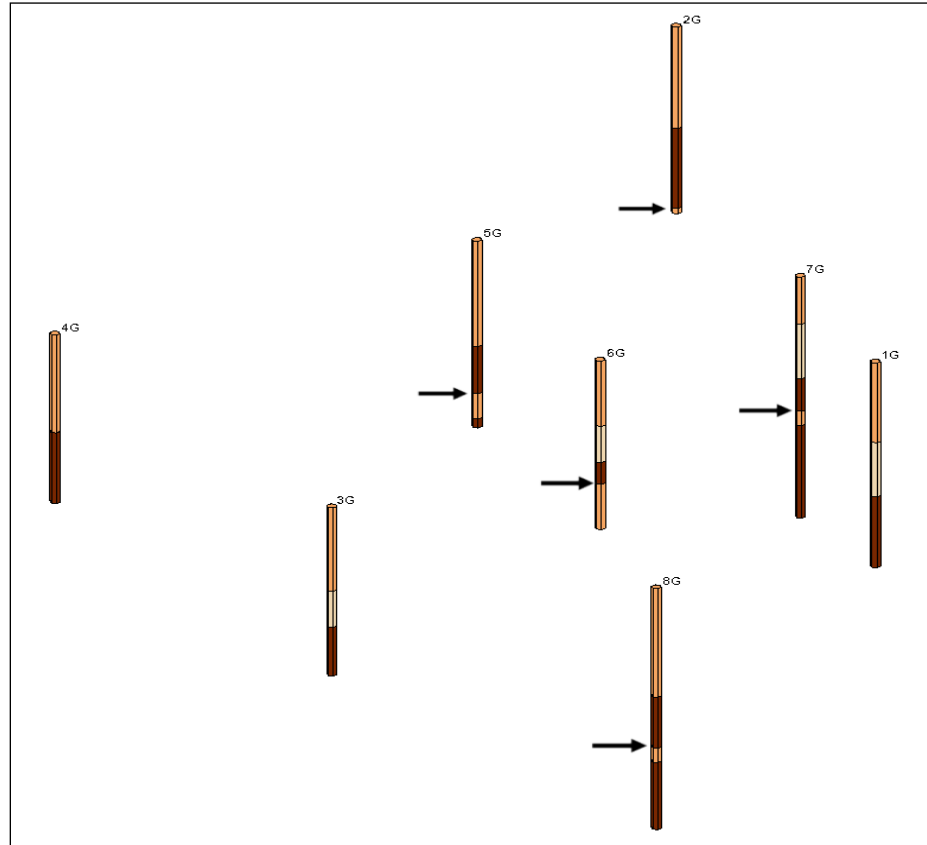

Figure 5 Contacts for Horizon 2
1. Using the **Select Contacts**  tool and the *Shift* key, select the borehole contacts shown in Figure 5.